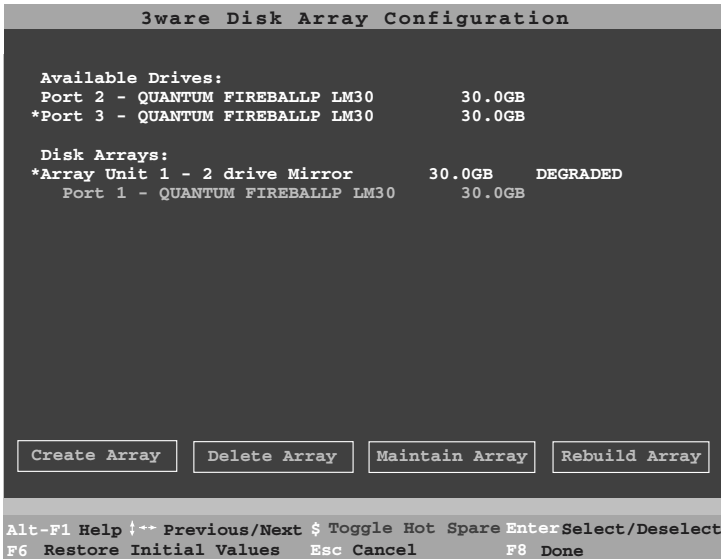

Figure 18. Select Available Drive to Replace Faulted Drive, RAID 1 Example
- 6 Select an available drive to replace the faulted drive in the array by navigating the cursor over the available drive and hitting **Enter** (see Figure 18). An asterisk in the left most column indicates the drive is selected.